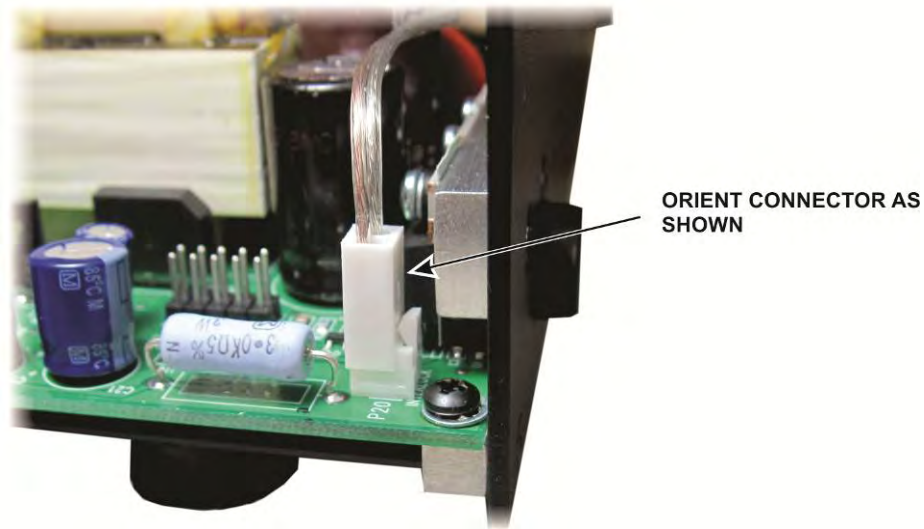

Figure 35. Connecting the Interlock Cable to the Power Supply Module.
- Connect the cable from the interlock switch on the left side panel to the power supply module as shown in Figure 35.
Replace the left side panel using the screws you removed earlier. Be sure to reconnect the interlock switch to the power supply module (see Figure 35 on page 26) and ensure the interlock switch cable is not trapped between the side panel and the heat spreader.